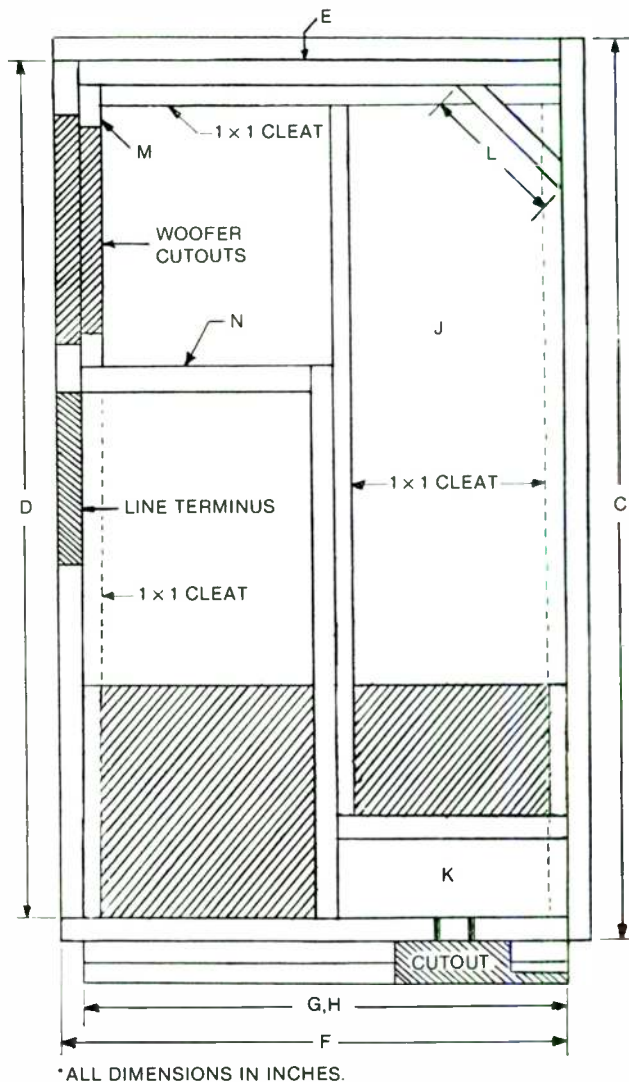

FIGURE 7: Side view of the cabinet with the left panel removed.
Using 1¼-inch screws, attach the 28¼-inch vertical cleats (1, 2 and 3) to the rear (C), left (A) and front (D) panels respectively (Figs. 7, 8 and 9). Finally, add the 25½-inch cleat (4) to side panel B.